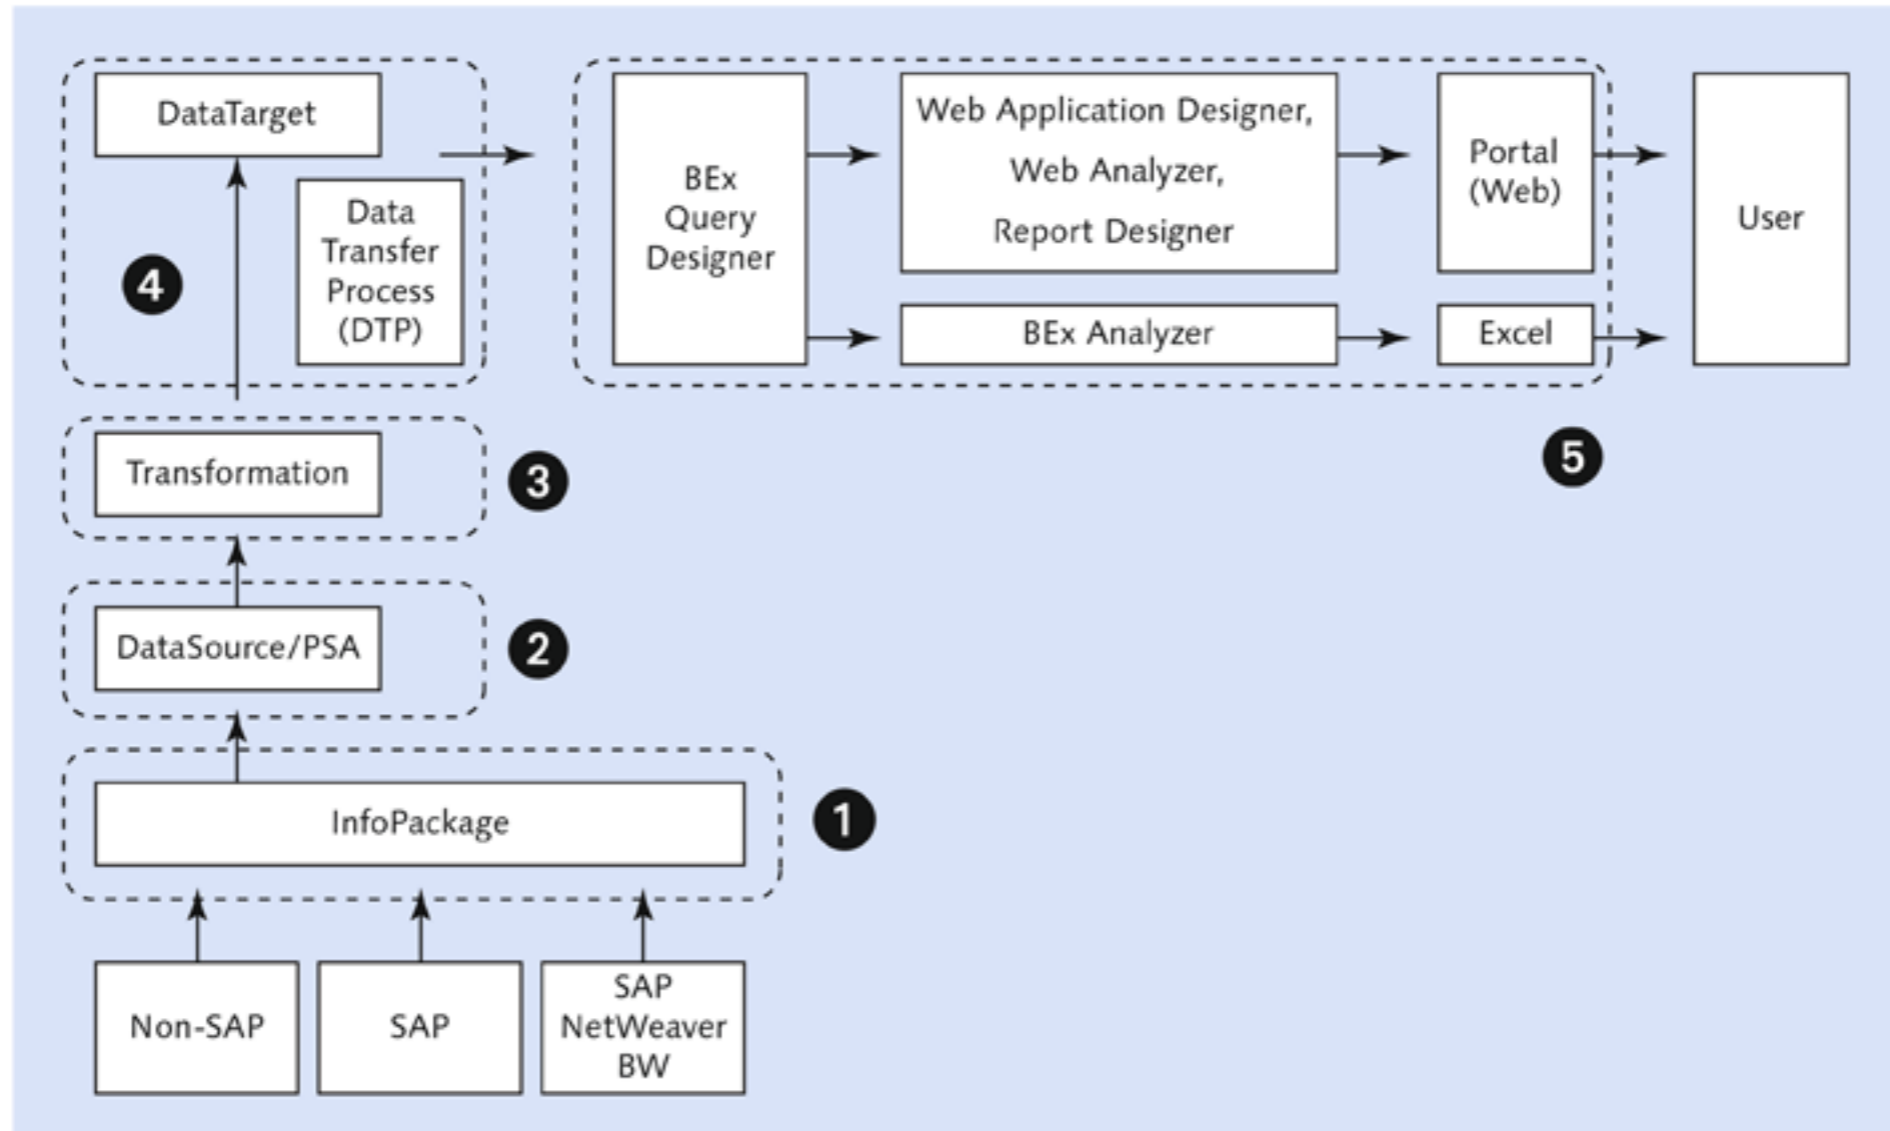
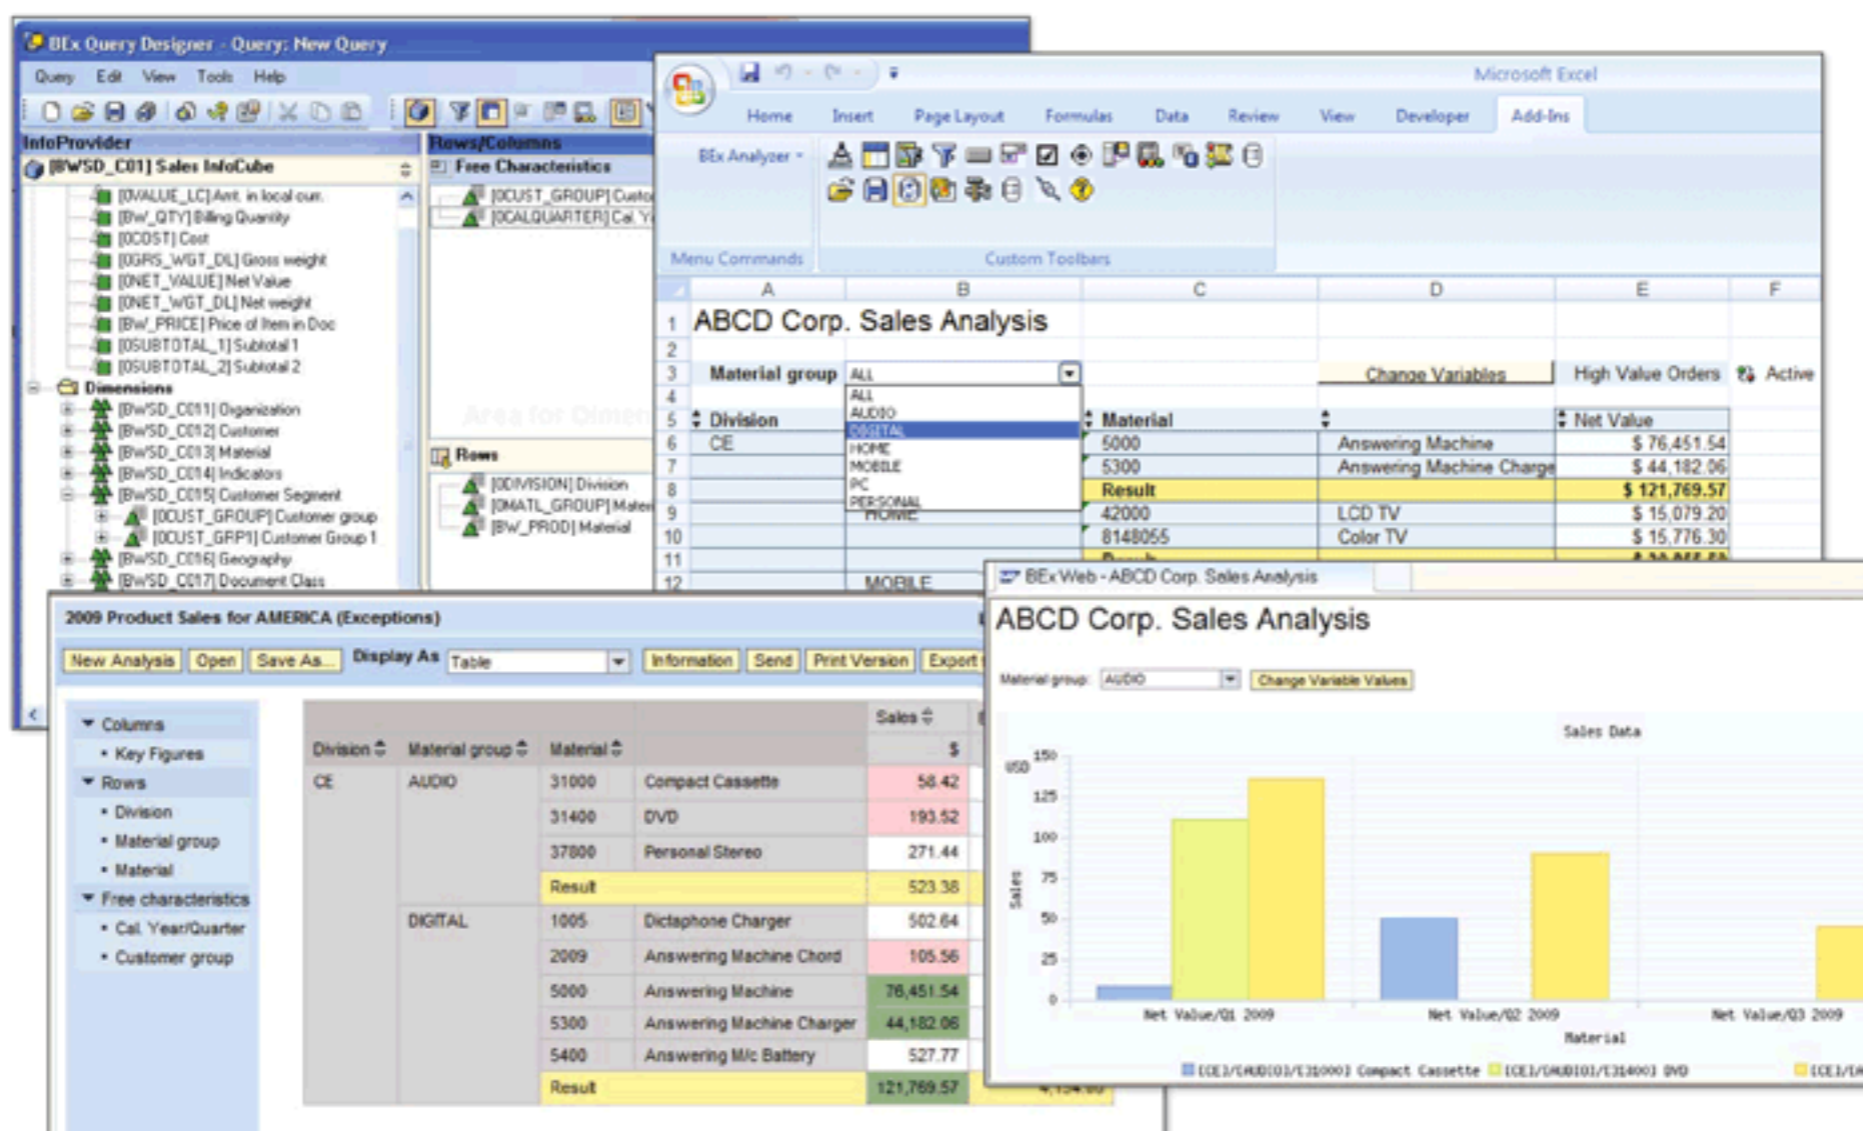

Figure 2.3 Layers Within SAP NetWeaver BW
Figure 2.4 Reporting and Analysis in SAP NetWeaver BW
SAP NetWeaver BW has different layers that are responsible for reliable data acquisition and information processing, along with robust analytical capabilities (Figure 2.3).
The extraction layer (❶ of Figure 2.3) is related to the *extraction process*, which is the collection of data from source systems. It aims to guarantee the integrity of data while eliminating reporting burdens on the source systems. As previously mentioned, SAP NetWeaver BW is capable of acquiring data from a wide spectrum of sources, such as the following:
Extracted data is received and temporarily stored in the *staging layer* of SAP NetWeaver BW (❷ of Figure 2.3). The data staging layer primarily serves the following purposes:
The transformation layer of SAP NetWeaver BW (❸ of Figure 2.3) facilitates the consolidation, cleaning, and integration of data to synchronize it technically and semantically. It converts data from the source data format into the desired destination data format. Data transformation can involve data mapping, the application of a custom transformation program, and formulas. We cover transformation in detail in Chapter 7.
The process of adding transformed data to data targets is called the *loading process* (4 of Figure 2.3). A data transform process (DTP) transforms the data based on the parameters defined between the data source and the data target. For more details on DTPs and loading, see Chapter 7.
The *reporting and analysis layer* (5 of Figure 2.3) is where data is presented in different forms, such as reports and dashboards (Figure 2.4). This layer allows you to perform analysis on the data stored in SAP NetWeaver BW. Various components that represent the reporting and analysis layer in SAP NetWeaver BW are grouped together as SAP Business Explorer (BEx) components. The reporting and analysis layer is discussed in more detail in Chapters 9 and 10.